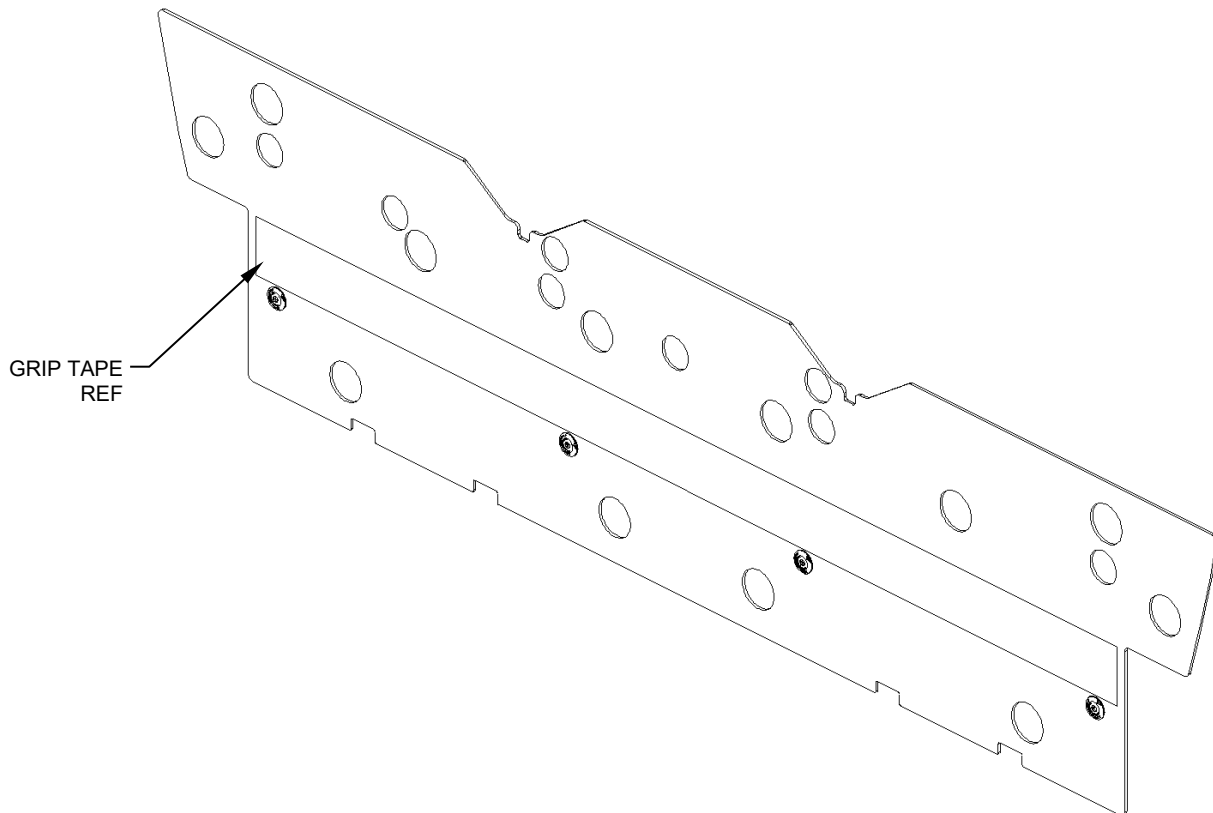

Figure 4
1. Placement of the Grip Tape is optional. It's location is approximate and can be placed to suite the individual operators needs. See Figure 4.